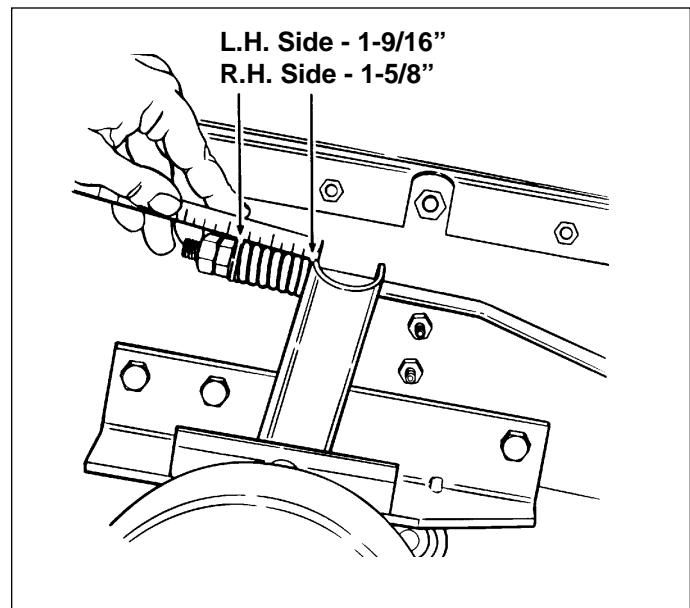

Figure 27. Parking Brake Adjustment
2. Measure length of spring as shown in figure 27. Measure along centerline of spring. Measurement should be 1-5/8\"/>